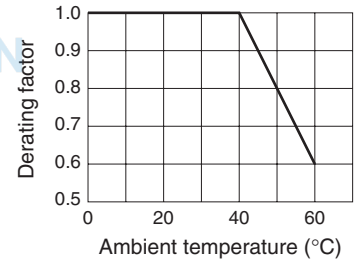

Fig.1
- Note 5. If ambient temperature is higher than 40°C, the derating factor shown in Fig.1 should be applied to the rated operating current.
- Note 6. When installing the output driving unit UA-SH8 type onto the US-N5SS/N8SS (TE) type, remove the US-N□ type unit's cover first.